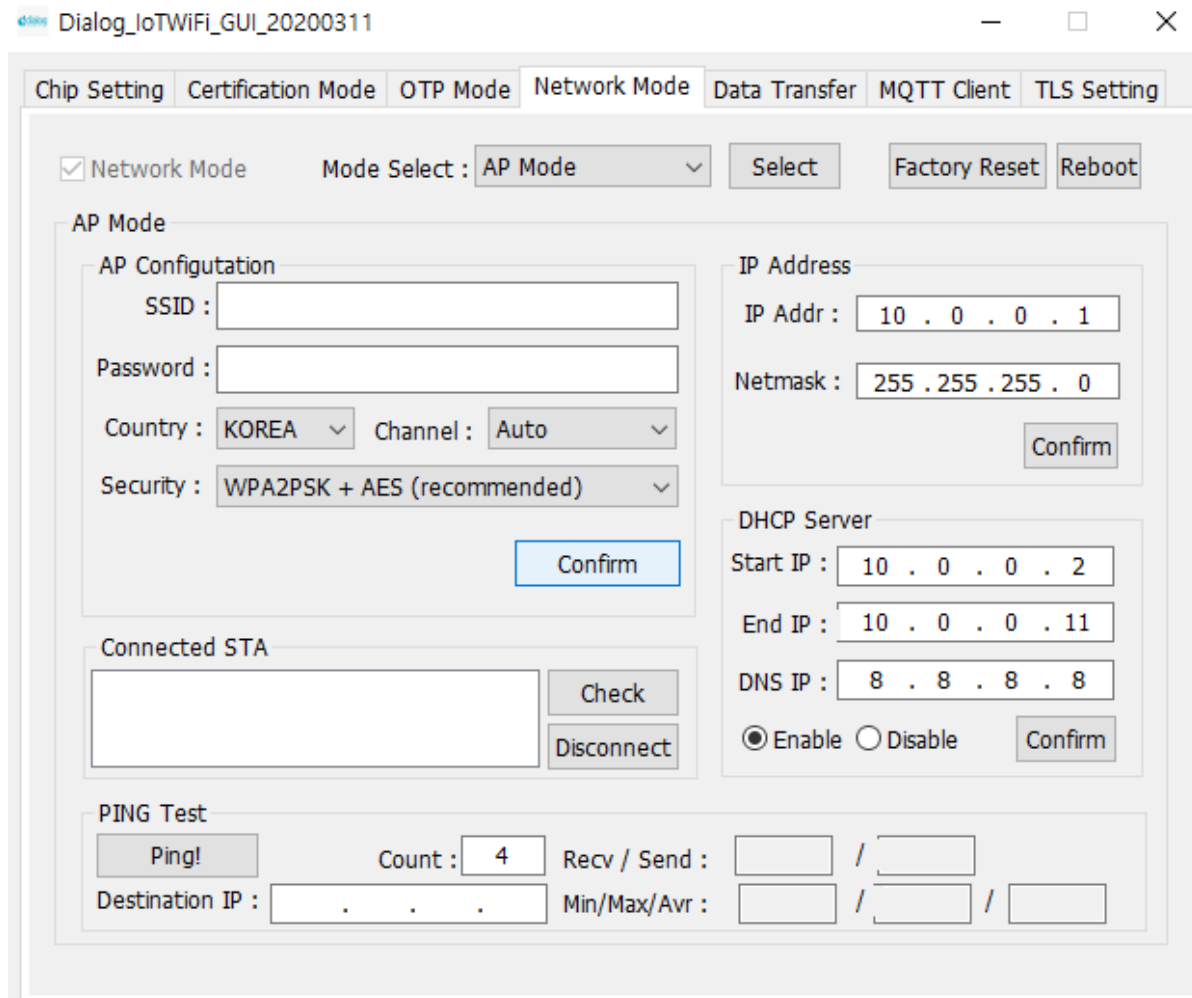

Figure 21: Setup Window - AP Mode
- o The network mode changes, DA16200 reboots and the AP Mode setup window opens. See Figure 21.